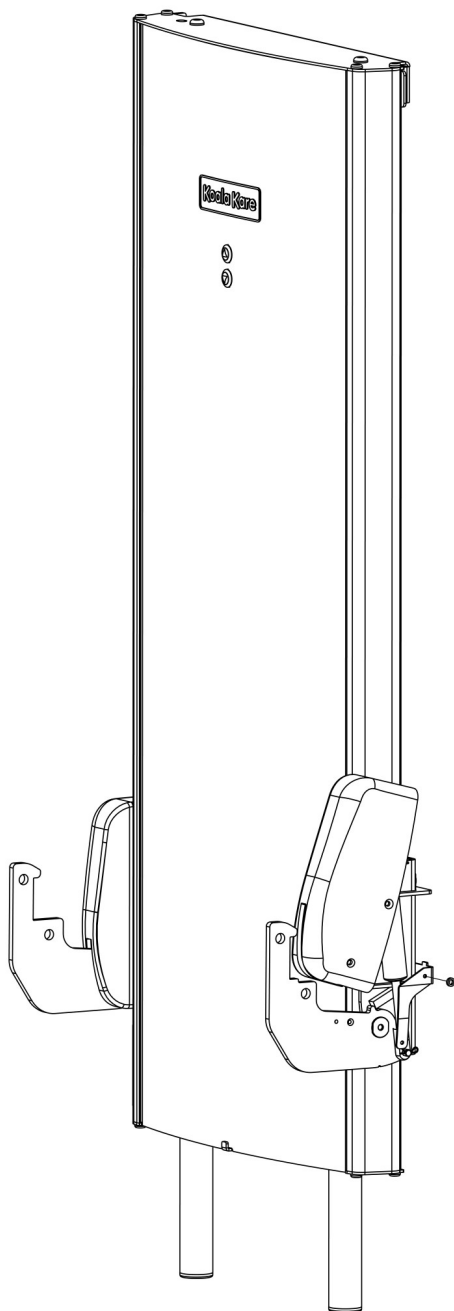

Fig 12.11a
- Locate the gas spring covers and rotate into position, as shown in Fig 12.11a - 12.11b.